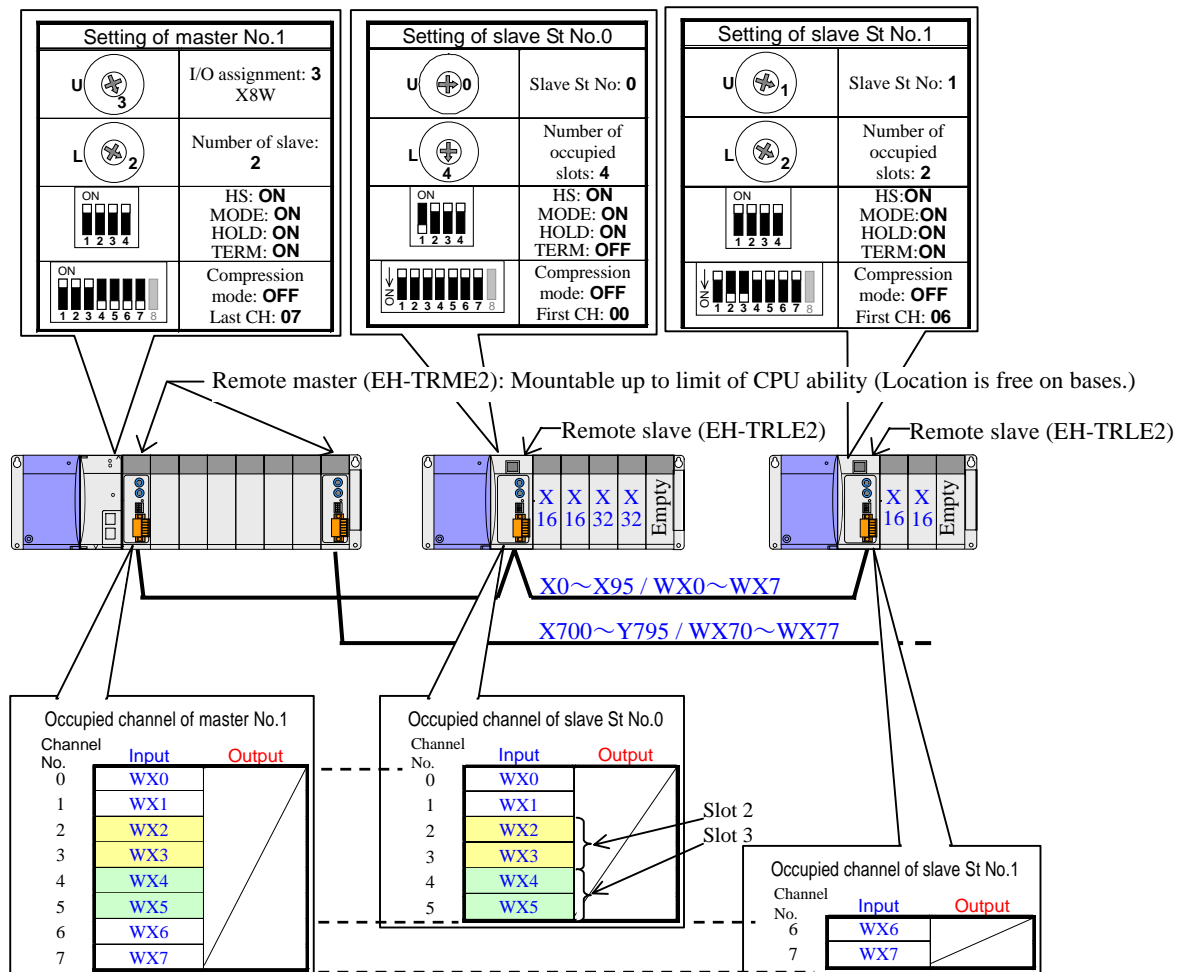
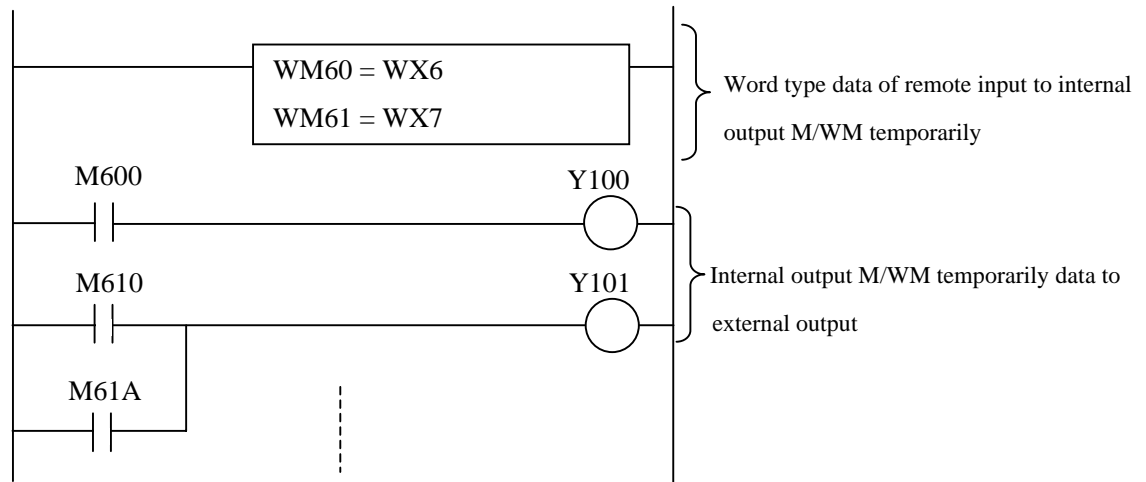

Figure 4.3.11 System configuration example (I/O assignment of master: “X8W”)
Figure 4.3.12 Sample program with bit I/O numbers that exceed 95 (WX6, WX7)
Basic system configuration example that I/O assignment of master module (EH-TRME2) is “X8W” is shown in Figure 4.3.11.
- 5) Maximum 8 slave modules can be connected to one master module. (Example of Figure 4.3.11 is 2 slaves.)
- 10) Bit number in module is from 0 to 95. Therefore, please use the word number such as WX6 and WX7 in Figure 4.3.11 for the number that exceeds 95. In the case of using these No. as coil or contact in ladder program, please use internal output like as M/WM temporarily and transfer these data to external input as shown in Figure 4.3.12.